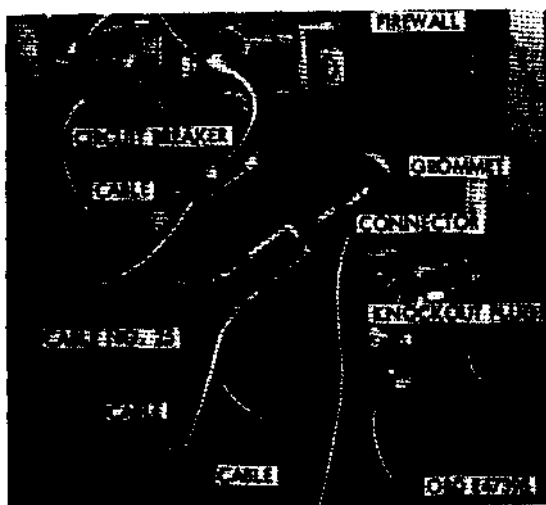

Figure 606. Knockout plugs on firewall
- (1) Remove the two knockout plugs (fig. 606) from left side of firewall. Make
- (2) Connect cable (KK fig. 599) to single end of connector (LL, fig. 599). Connect cable (RR and MM, fig. 599) to double end of connector. Thread cable on single end of connector through the 1-1/2-inch hole in firewall (engine side of cab side) and connect to terminal on circuit breaker (fig. 612). Fit grommet in firewall (fig. 606).
- (6) Disconnect cable No. 25 (fig. 606) from circuit breaker and connect it to cable leading from connector (LL, fig. 599). Connect other cable leading from connector (LL, fig. 599) to the circuit breaker from which No. 26 cable was disconnected.